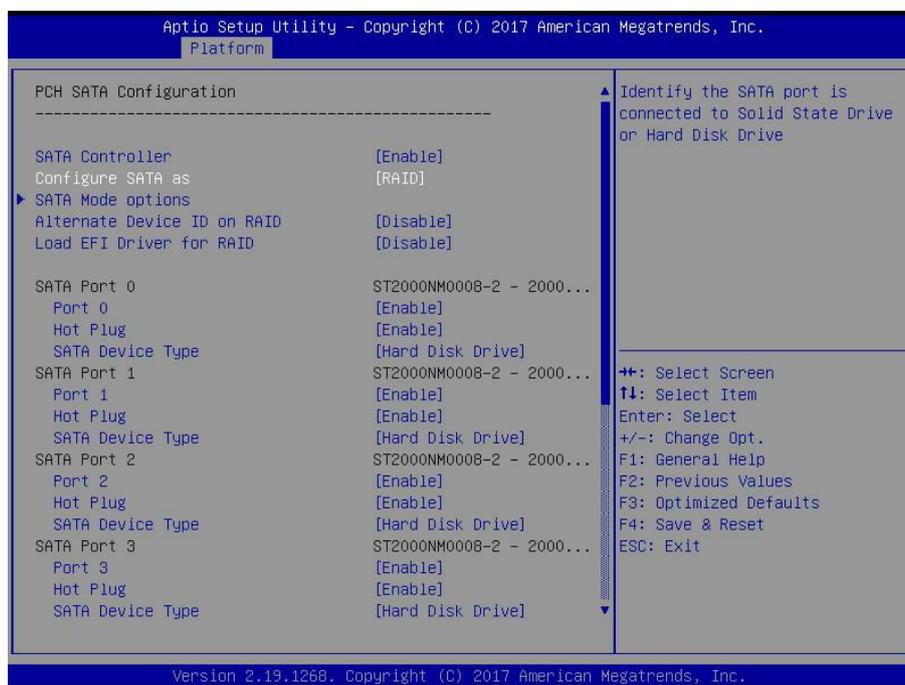

Fig.6.1
- b) Move to PlatForm interface-->PCH Configuration-->PCH SATA Configuration-->Configure SATA as. Configure SATA to RAID mode, as shown in figure 6.1